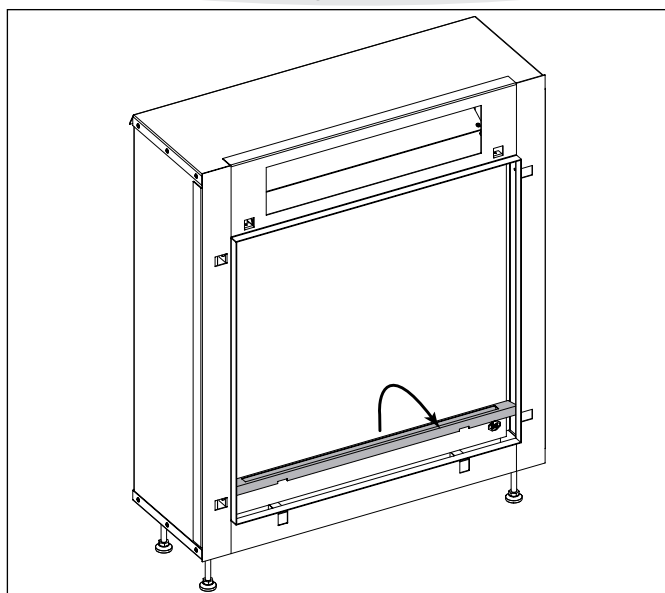

Figure 7
2. Remove the air inlet moulding from the appliance (figure 7).